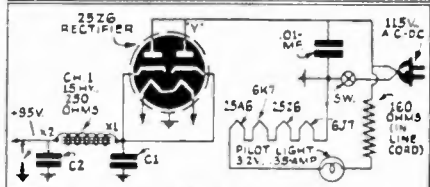
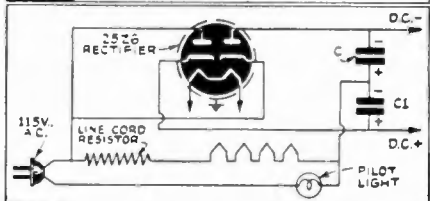

FIG. 2B ~ HALF-WAVE RECTIFIER-TYPICAL CIRCUIT FOR AC-DC ~
FIG. 2C ~ VOLTAGE-DOUBLER RECTIFIER-TYPICAL CIRCUIT FOR "TRANSFORMERLESS" SET ~
- (b) Transformerless, A.C.-D.C. system, with series filaments and a rectifier; see Fig. 2B.
- (c) A Voltage-Doubler Rectifier Circuit, per Fig. 2C.
The simpler rectifier circuits, for example the 25Z6 (Fig. 2B) commonly used in A.C.-D.C. sets with series filaments and half-wave rectification, or the 25Z6 used as a voltage doubler (Fig. 2C), are treated in the same manner. The D.C. voltages available from the doubler circuit are approximately twice that obtained from the same tube in the half-wave circuit. In the doubler circuit, the maximum voltage obtainable and the degree of regulation can usually be improved substantially by increasing the values of C and C1, up to about 32 mf., each.